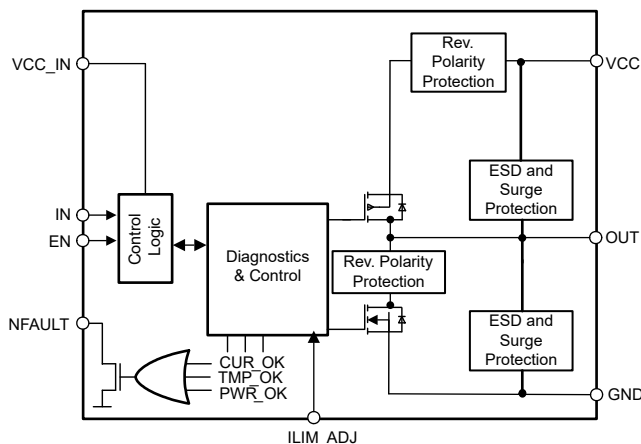

图 8-1. Block Diagram, TIOS102
图 8-1 shows that the device driver output (OUT) can be used in a push-pull, high-side, or low-side configuration using the enable (EN) and transmit data (IN) input pins. OUT can drive resistive, large capacitive or large inductive loads.